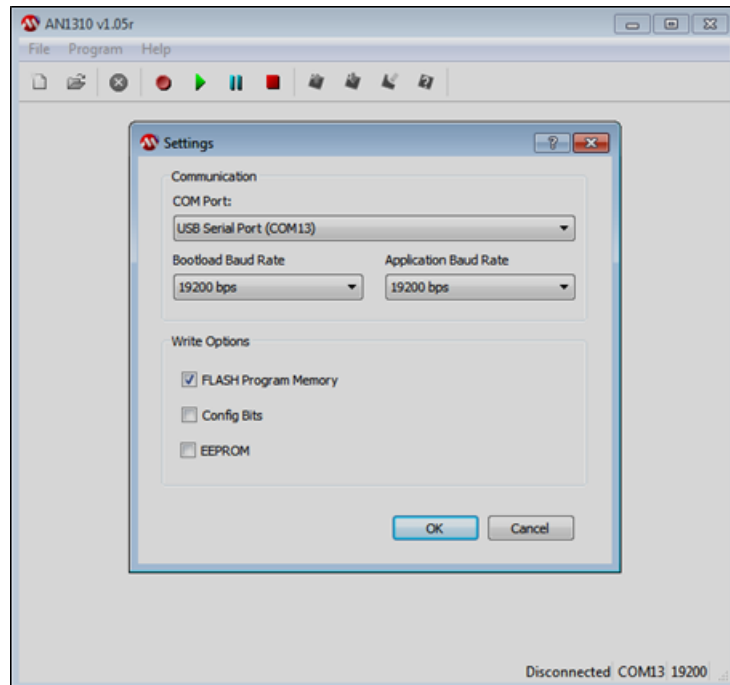
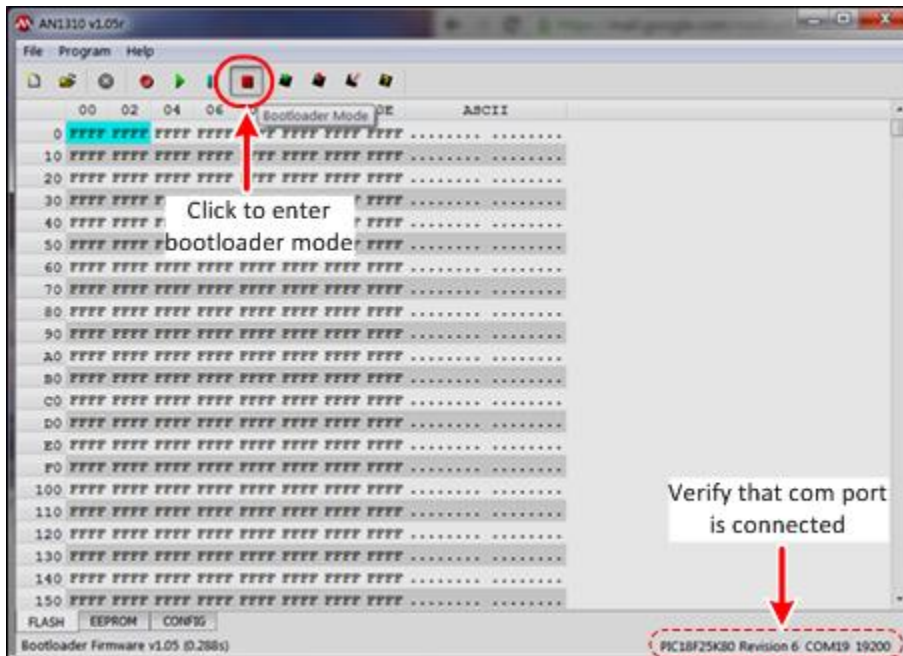

FIGURE 6-2 SERIAL BOOTLOADER PROGRAM – SELECTING COM PORT
FIGURE 6-3 SERIAL BOOTLOADER PROGRAM – CONNECTING TO HHT
STEP 5	Open the Serial Bootloader program – see Figure 6-3.
STEP 6	<p>Go to “Program -> Settings”.</p> <p>Choose the correct com port for the HHT and click on “OK” – see Figures Figure 6-1 and Figure 6-2.</p> <p>Make sure that the COM port is connected – see Figure 6-3.</p>
STEP 7	Click on the red square button to enter bootloader mode – see Figure 6-3. Make sure that the bottom toolbar indicates that the HHT is connected.